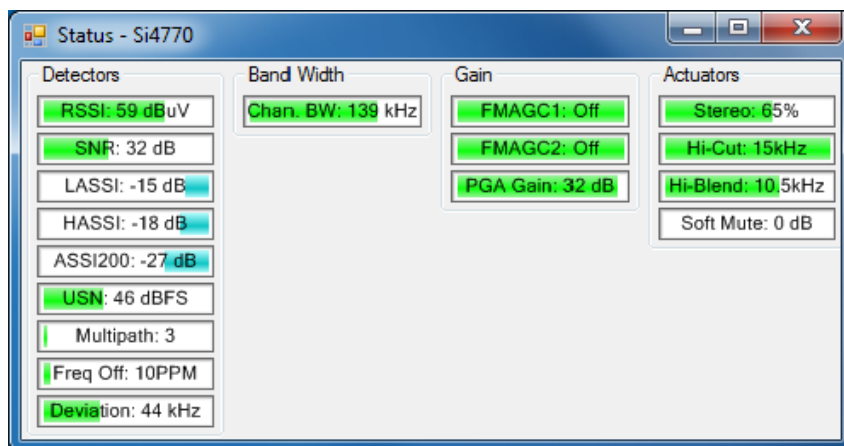

Figure 24. FM Status Indicator Window
9. **Status Indicator Undock.** Opens a separate window with all status indicators for more convenient viewing as shown in Figure 24. "FM Status Indicator Window".